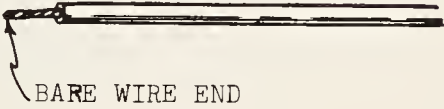

FIG.4
4. Next, cut a piece of spaghetti insulation twice the length of the solderless sleeve connector. Slip the spaghetti insulation onto one of the wires to be spliced. (*Figure 4*)
9. Clean the wire ends with sandpaper. (*Figure 4*)